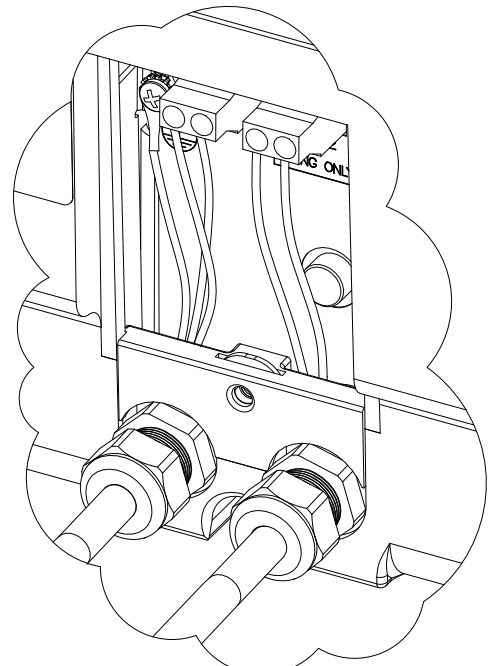

Figure 9
8. On either side of the circuit board there are mounting screws. Remove the screw that secures the ground wire (left). Loosen the screw on the right. It is not necessary to remove it completely. (See Figure 9)